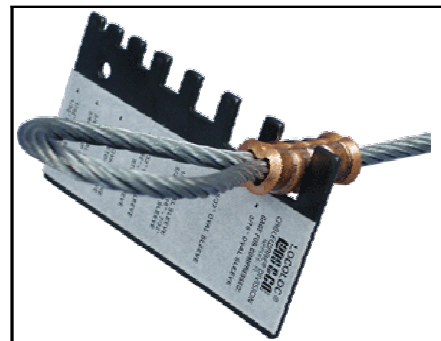

**FIGURE 2**
3. KEEP JAWS OF SWAGING TOOL AT RIGHT ANGLES TO THE SLEEVE TO BE COMPRESSED, MAKING SURE THE SLEEVE IS ALIGNED IN THE JAW GROOVES AS SHOWN IN FIGURE 2. CLOSE TOOL COMPLETELY. TOOL HANDLES SHOULD SNAP SHUT INDICATING COMPLETE CLOSURE.